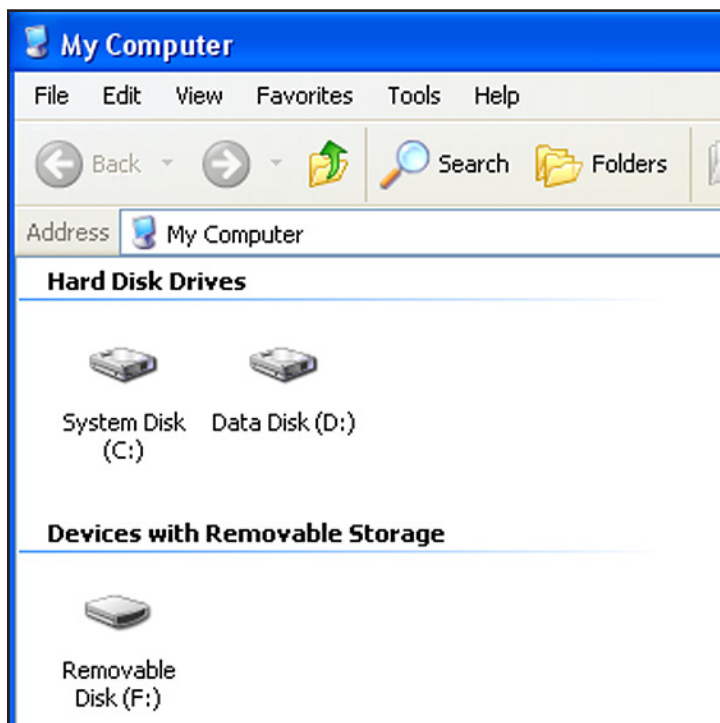

Figure 54: Locating the Card Reader
1. From the PC, open **My Computer** and find the card reader in the “*Devices with Removable Storage*” section. (see *Figure 54* below).